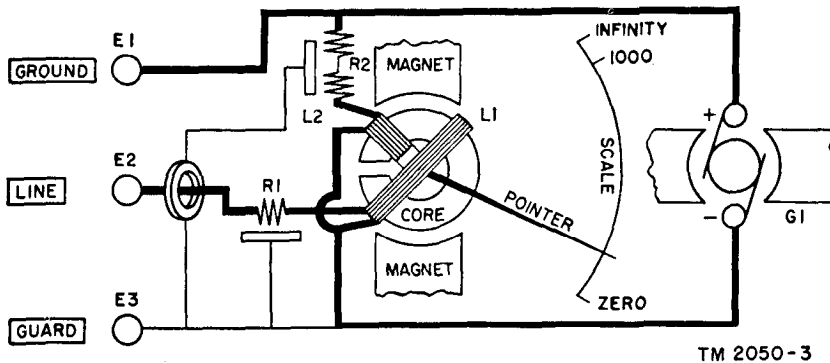

Figure 19. Test set I-48-B and Ohmmeter ZM-21A/U, functional diagram.
a. The working circuit of the insulation resistance measuring set is designated in heavy lines in figure 19. The crank of the hand generator operated at a speed of 160 rpm rotates generator G1 at approximately 6,000 rpm. The generator delivers a potential of 500 volts dc. With no connections made to the ohmmeter terminals, current flows from the negative (-) terminal of generator G1, through potential coil L2 of the meter, and through the two resistors R2 to the positive
The guard circuit is shown in figure 19 in light lines. This circuit is used for measurements over 100 megohms. The guard circuit consists of a metal ring around LINE terminal L2, metal plates on which resistors R1 and R2 are mounted, and, in Test Set I-48-B, a shielded cable that connects the ring and the plates to GUARD terminal E3.
- b.* Functional diagram (fig. 19).